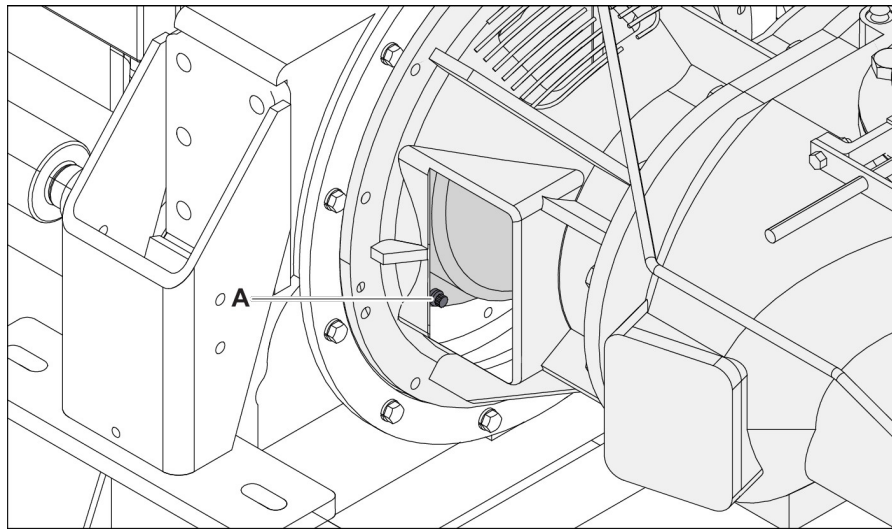

Figure 8
13. Turn the engine to align each of the mounting cap screws (Figure 8, item A) on the coupling and remove the cap screws one at a time.